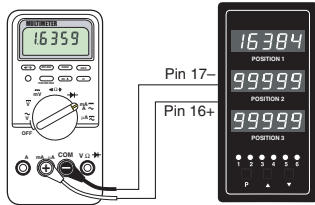

Figure 4 – Multimeter to Controller Connections
- 2) See Figure 4. Connect a multimeter to the analog output connector at the rear of the controller (pin 16-positive, pin 17-negative).